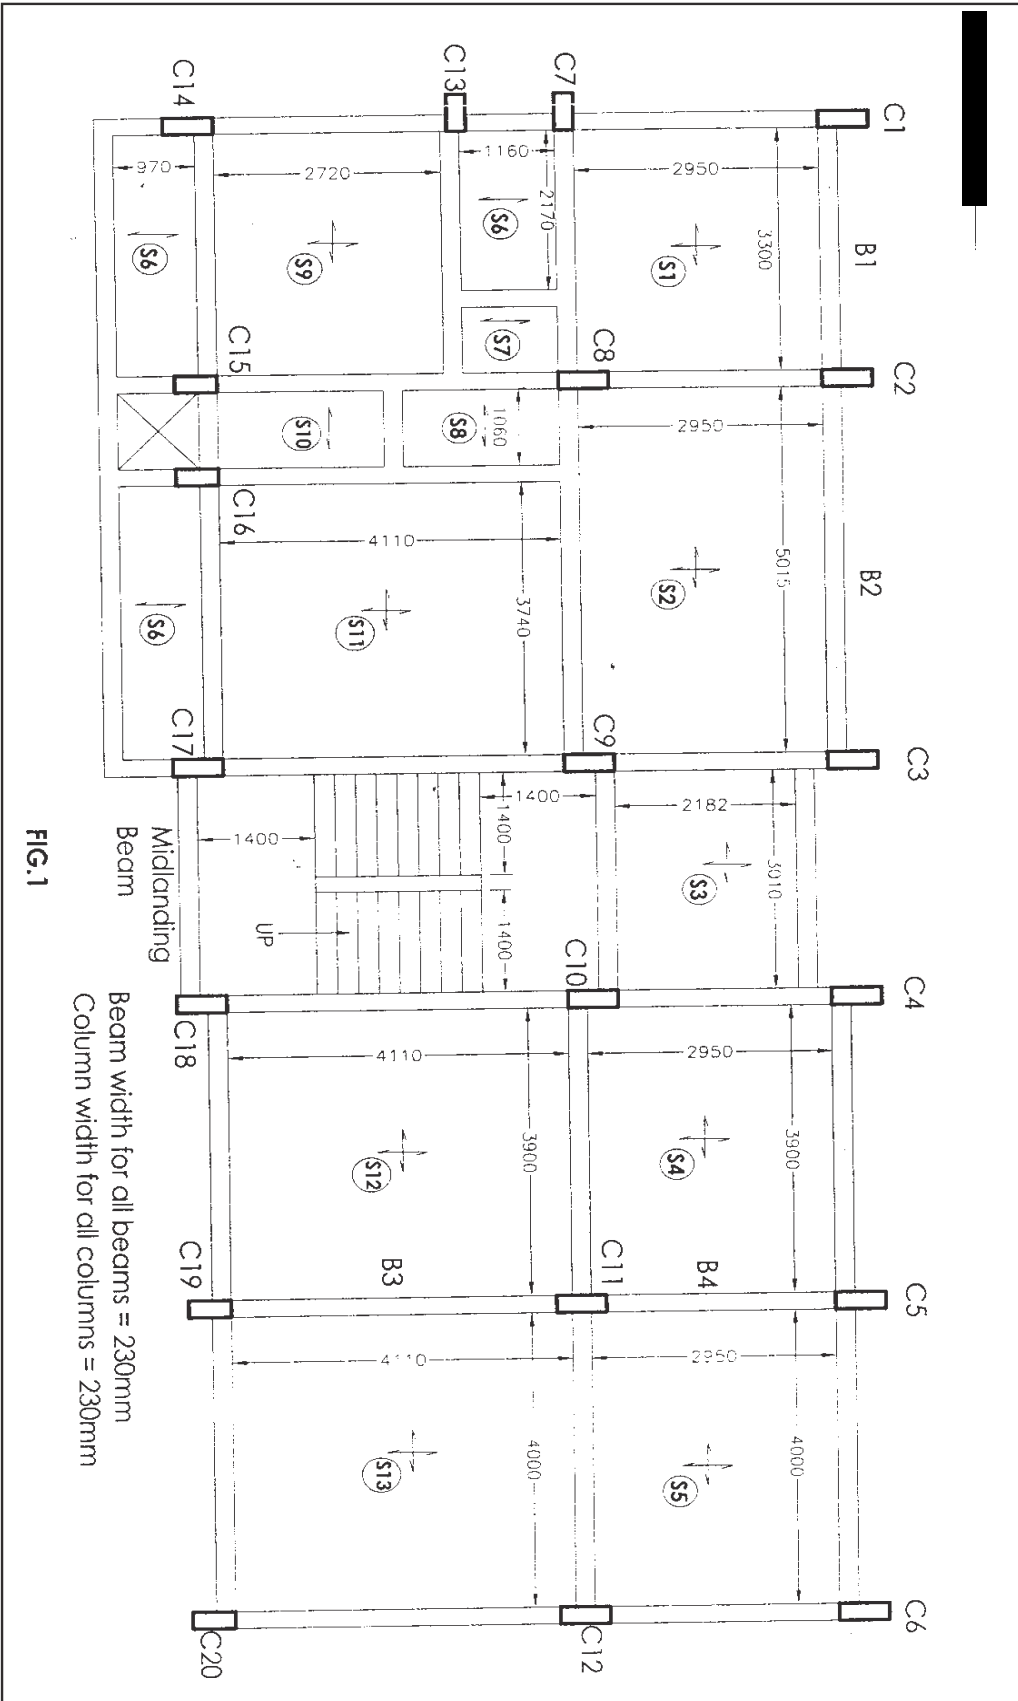

FIG.1
- Q3)** Design floor slabs S4 and S12 only for flexure and torsion. Refer the structural plan given in fig. 1. Consider live load = 3 kN/m^2 , Floor finish = 1.0 kN/m^2 .
- Q4)** Design the I and II flights of a dog legged staircase as shown in figure 1 using the following data: **[25]**
- Q5)** A continuous R.C.C. floor beam B1-B2 (Refer Fig.1) is simply supported at end supports and continuous through column C2. Consider live load on slab 3kN/m² and floor finish 1.5 kN/m². Assume slab thickness 130mm for load calculation. Consider 230 mm thick brick wall on all exterior beams. Floor to floor height is 3.15m. Show detailed load calculations and determine support moments, maximum span moments for all beams, using 20% redistribution of moments. Draw bending moment diagram and design the beam **only for flexure**. Show the reinforcement details along the length of beam with suitable cross sections. **[25]**
Q7) Design an axially loaded short column C11 as shown in Fig. 1 in ground floor for a G+2 building with following details: **[25]**